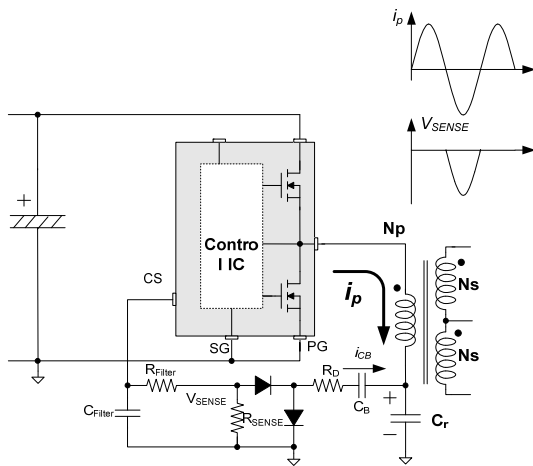

Figure 29. Capacitive Sensing
8.2 Capacitive Sensing Method: The drain current can be sensed using an additional capacitor parallel with the resonant capacitor, as shown in Figure 29. During the low-side switch turn on, the current, i_{CB} through C_B , makes V_{SENSE} across R_{SENSE} . The i_{CB} is scale-down of i_p by the impedance ratio of C_r and C_B . Generally, 1/100~1/1000 is adequate for the ratio of C_B against C_r . R_D is used as a damper for reducing noise generated by switching transition. Several hundreds of ohm to a few of kilo-ohms can be normally used.